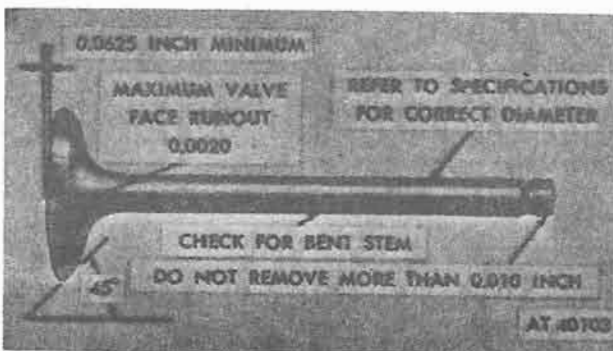
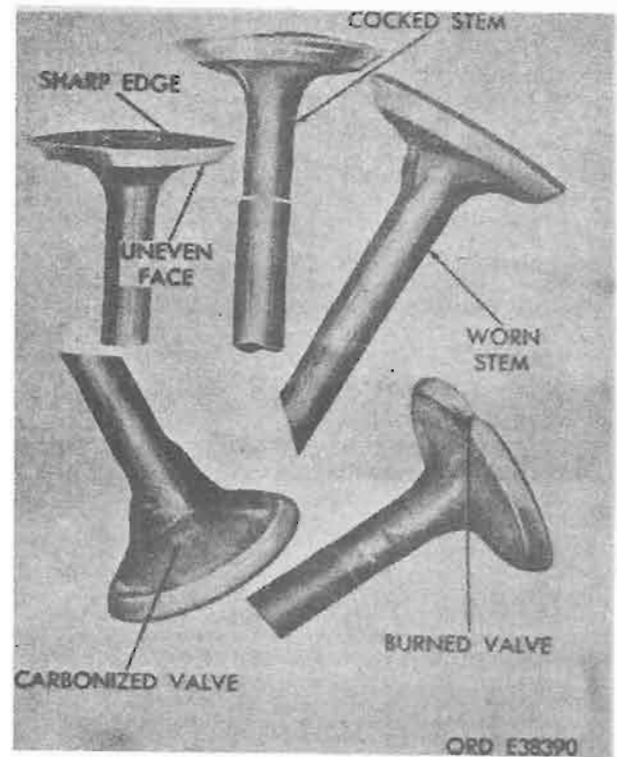
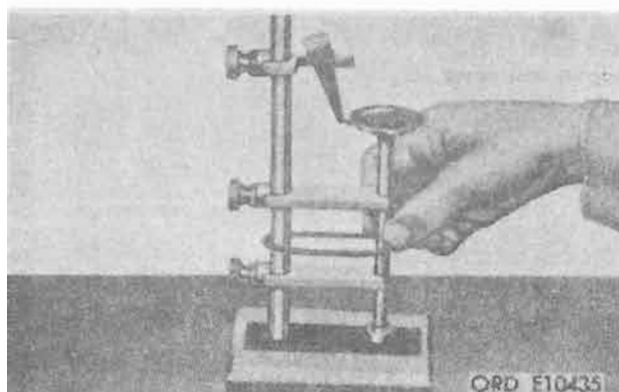

Figure 4-136. Critical tolerances—typical.
Figure 4-137. Unserviceable valves.
Figure 4-138. Valve race runout—typical.
(1) Remove all carbon and varnish from valve with a fine wire brush or buffing wheel. Critical inspection points and tolerances of the valve are illustrated in figure 4-136.
(2) Inspect valve face and edge of valve head for pits, grooves, scores, or other defects. Inspect stem (fig. 4-137) for a bent condition and end of stem for grooves or scores. Check valve head for signs of burning or erosion, warpage, and cracking. Defects such as minor pits, grooves; etc., may be removed. Discard valves that are severely damaged, or have a head margin less than 1/32-inch after refacing.
(3) Inspect valve springs, valve spring retainers, locks, and sleeves for defects. Discard any defective parts.
b. *Valve Face Runout.* Check valve runout with accurate precision equipment (fig. 4-138), it should not exceed wear limits (fig. 4-136).